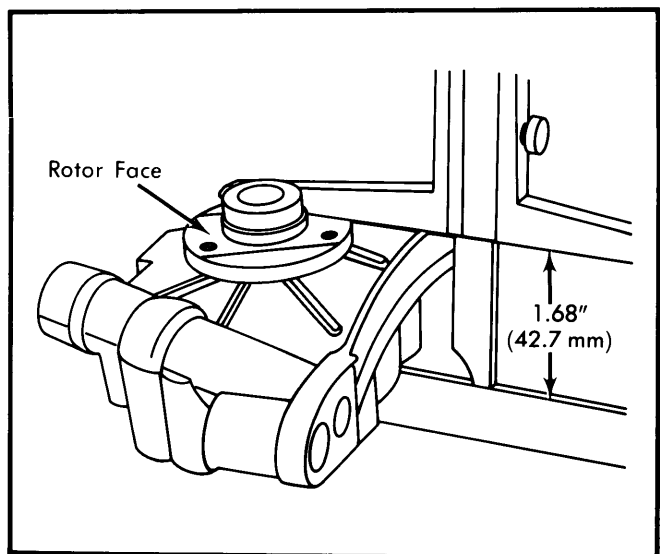

Fig. 11 Measuring Distance Between Flange and Rotor Face
- 4) Using suitable puller, remove drive flange from rotor shaft. Press drive flange on new rotor shaft to a distance of 1.68" (42.7 mm) between flange and rotor face. See Fig. 11.